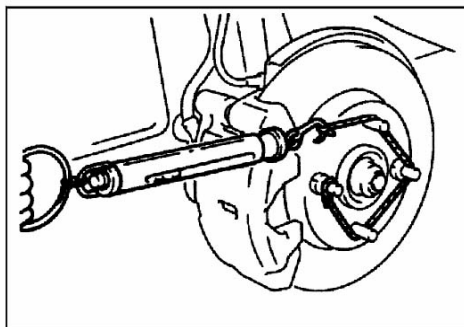

Fig. 16-35
- ④ Be careful that the piston boot does not become caught, when lowering the caliper assembly and install the guide pin to the caliper.
- ⑤ Start the engine, and then depress the brake pedal two or three times strongly. Then stop the engine.
- ⑥ Turn the brake disc forward 10 times.
- ⑦ Use a spring balance to measure the rotary-sliding resistance of the hub in the forward direction. (see Fig.16-35)。